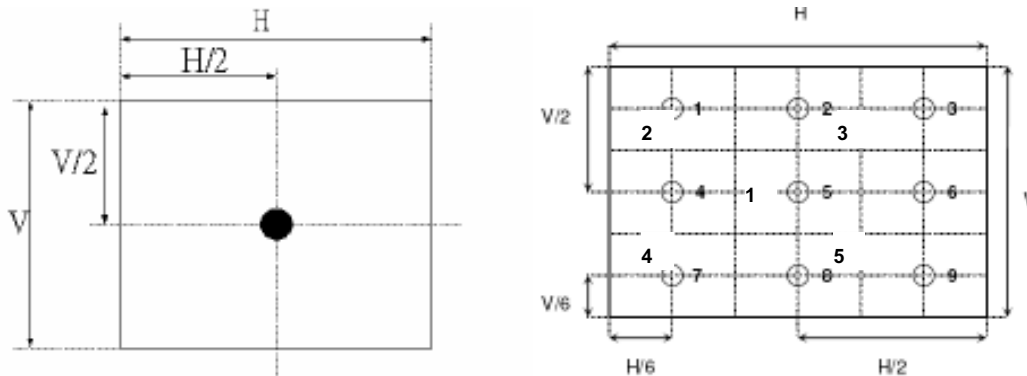

Fig.4-2 Optical measurement point
2. Surface luminance is luminance value at point 1 across the LCD surface 50cm from the surface with all pixels displaying white. From more information see Fig. 4-2. When $V_{DDb} = 24V$, $I_{DDb} = 12.5 A$. $L_{WH} = L_{on1}$, Where L_{on1} is the luminance with all pixels displaying white at center 1 location.